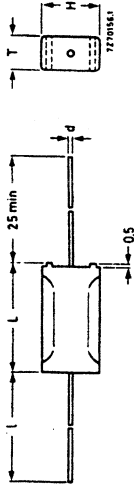

Fig. 1 Capacitors 2222 341.
Table 1- U_R (DC) = 100 V; max. AC voltage = 63 V; Fig. 1
Table 2-UR (DC) = 250 V; max. AC voltage = 160 V; Fig. 1